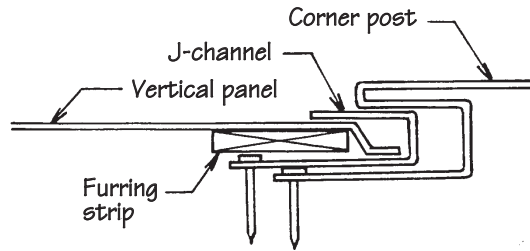

Figure 57.
- If the panel is cut in the bottom of the V-groove, insert it into the J-channel. A furring strip should be provided prior to panel insertion. This will prevent the panel from detaching (Fig. 57).